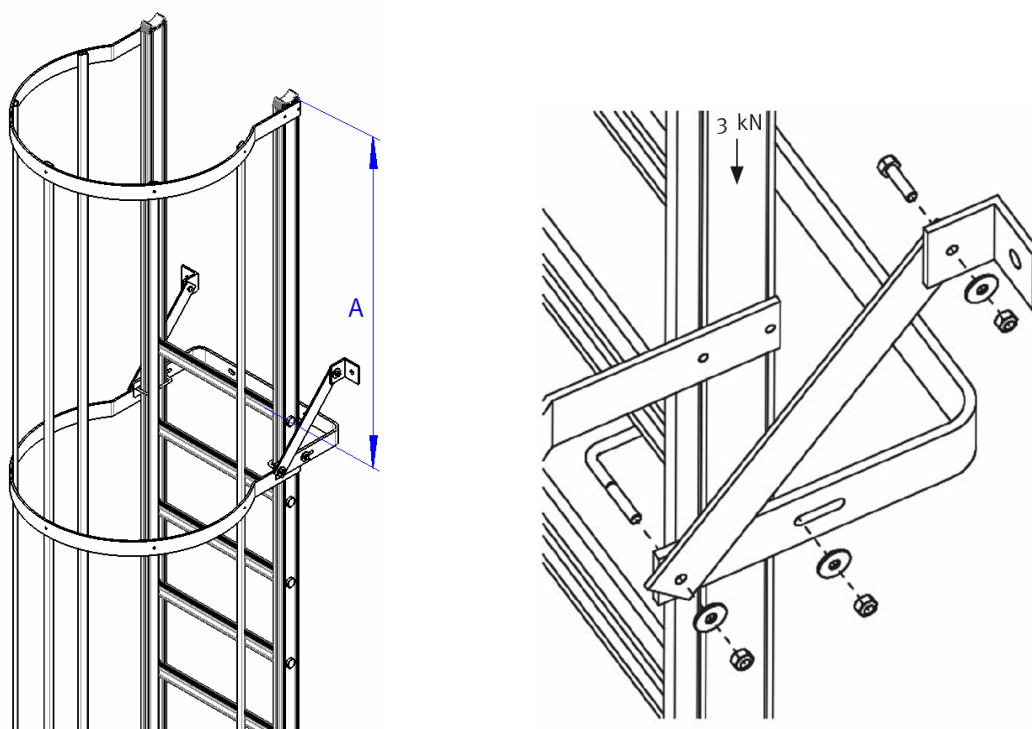

Figure 1
- Choose the correct fastening elements. When calculating the strength of the anchorage, a force of 3 kN has to be taken into account for each upright, in the direction of the centre line (see figure 1). The anchorage and the corresponding connections have to be able to carry a load of 3000 N per upright. A maximum of 4 anchorage points can be taken into consideration to contribute to this load.
- Fix the wall mount kit(s) and, if applicable, mounting bracket kit(s) to the ladder parts (see figures 1 and 2). Make sure that the wall mount is fixed immediately underneath the rung (as far as this is possible). The maximum distance between two wall mounts is 2 metres.